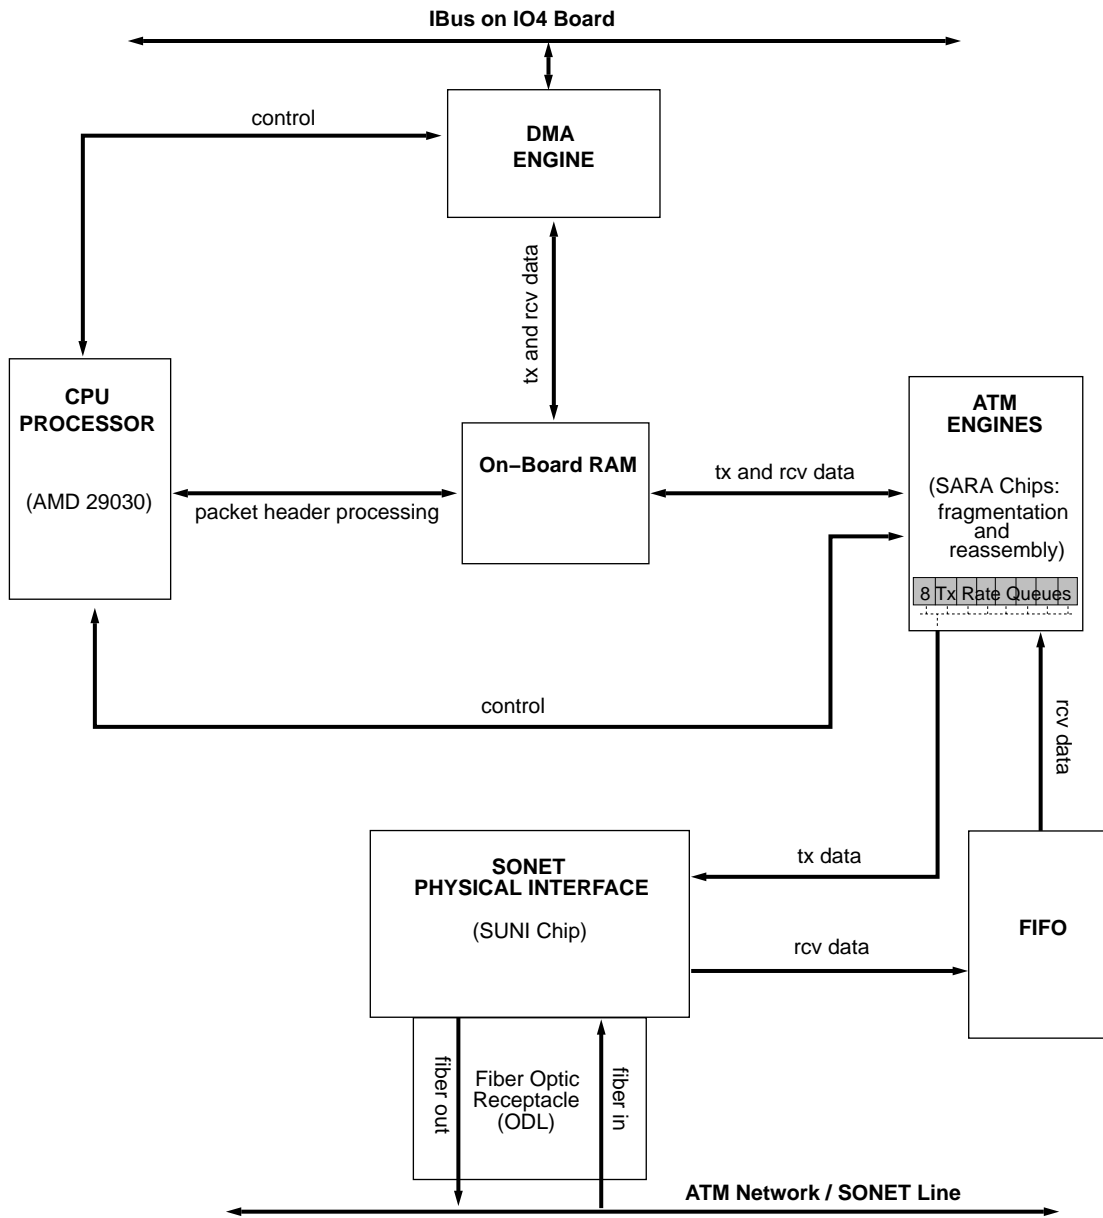

Figure 1-1 Block Diagram for IRIS ATM Board
- Figure 1-1** Block Diagram for IRIS ATM Board1-2
The IRIS ATM-OC3c board supports ATM over SONET OC3c (with a transmission rate of 155.52 megabits per second). Synchronous Optical Network (SONET) is the physical layer protocol. The board is a short (standard) mezzanine board that occupies one position on any IO4 board. The board has a CPU (AMD 29030) and on-board memory to control data processing and TCP and UDP checksumming. Figure 1-1 is a block diagram of the board.
Each IRIS ATM-OC3c board has 8 rate queues organized as 2 banks: a0-a3 and b0-b3. These queues are illustrated on the block diagram, Figure 1-1. The “a” bank consists of 4 high-priority queues that are designed for constant bit rate traffic (CBR and VBR channels). The other bank contains 4 low-priority queues that are only used for best effort traffic. High-priority queues are serviced before low-priority ones. As long as there is data awaiting transfer on any high-priority queue, low-priority data is not transmitted. This means that, for applications with a constant flow of data, only queues a0-a3 will ever operate.